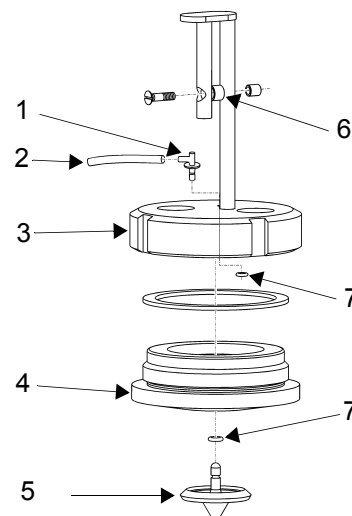

Figure 4.5 Float chamber
- Check that the O-rings (7, figure 4.5) in the spoon are in a good condition (i.e. they shown no signs of leakage). Replace worn or damaged O-rings.
- Check that the small roller (6) in the spoon turret can turn freely. Replace it if necessary.
Check that the float chamber (4, figure 4.5) contains the correct volume. Proceed as follows: